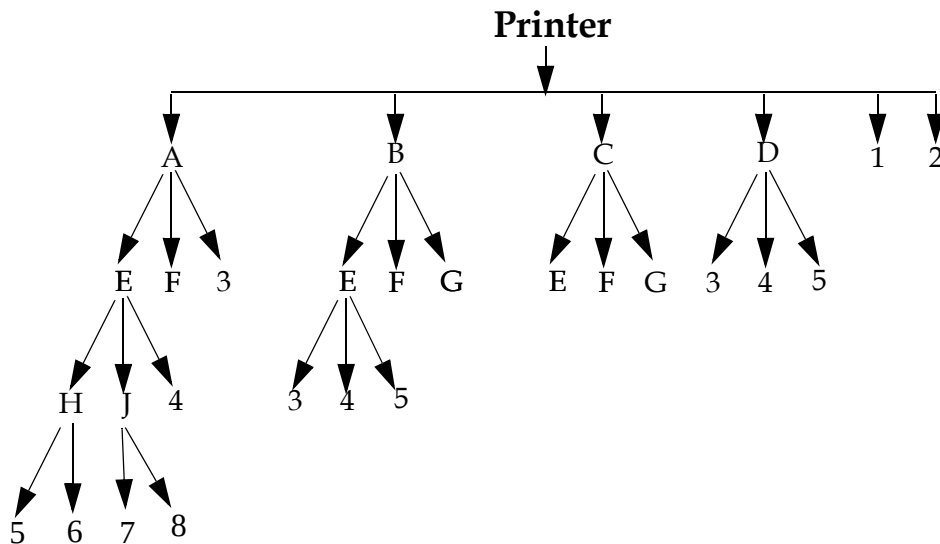

Figure 10-1: Graphical Representation of the different Subassemblies and parts
- An alphabet is assigned to the main assemblies of a printer and each subassembly under the main assembly. See Figure 10-1 on page 10-3.
A natural number (1,2,3.....) is assigned to the stand alone parts (in ascending order) through out the breakdown of main assemblies. See Figure 10-1.